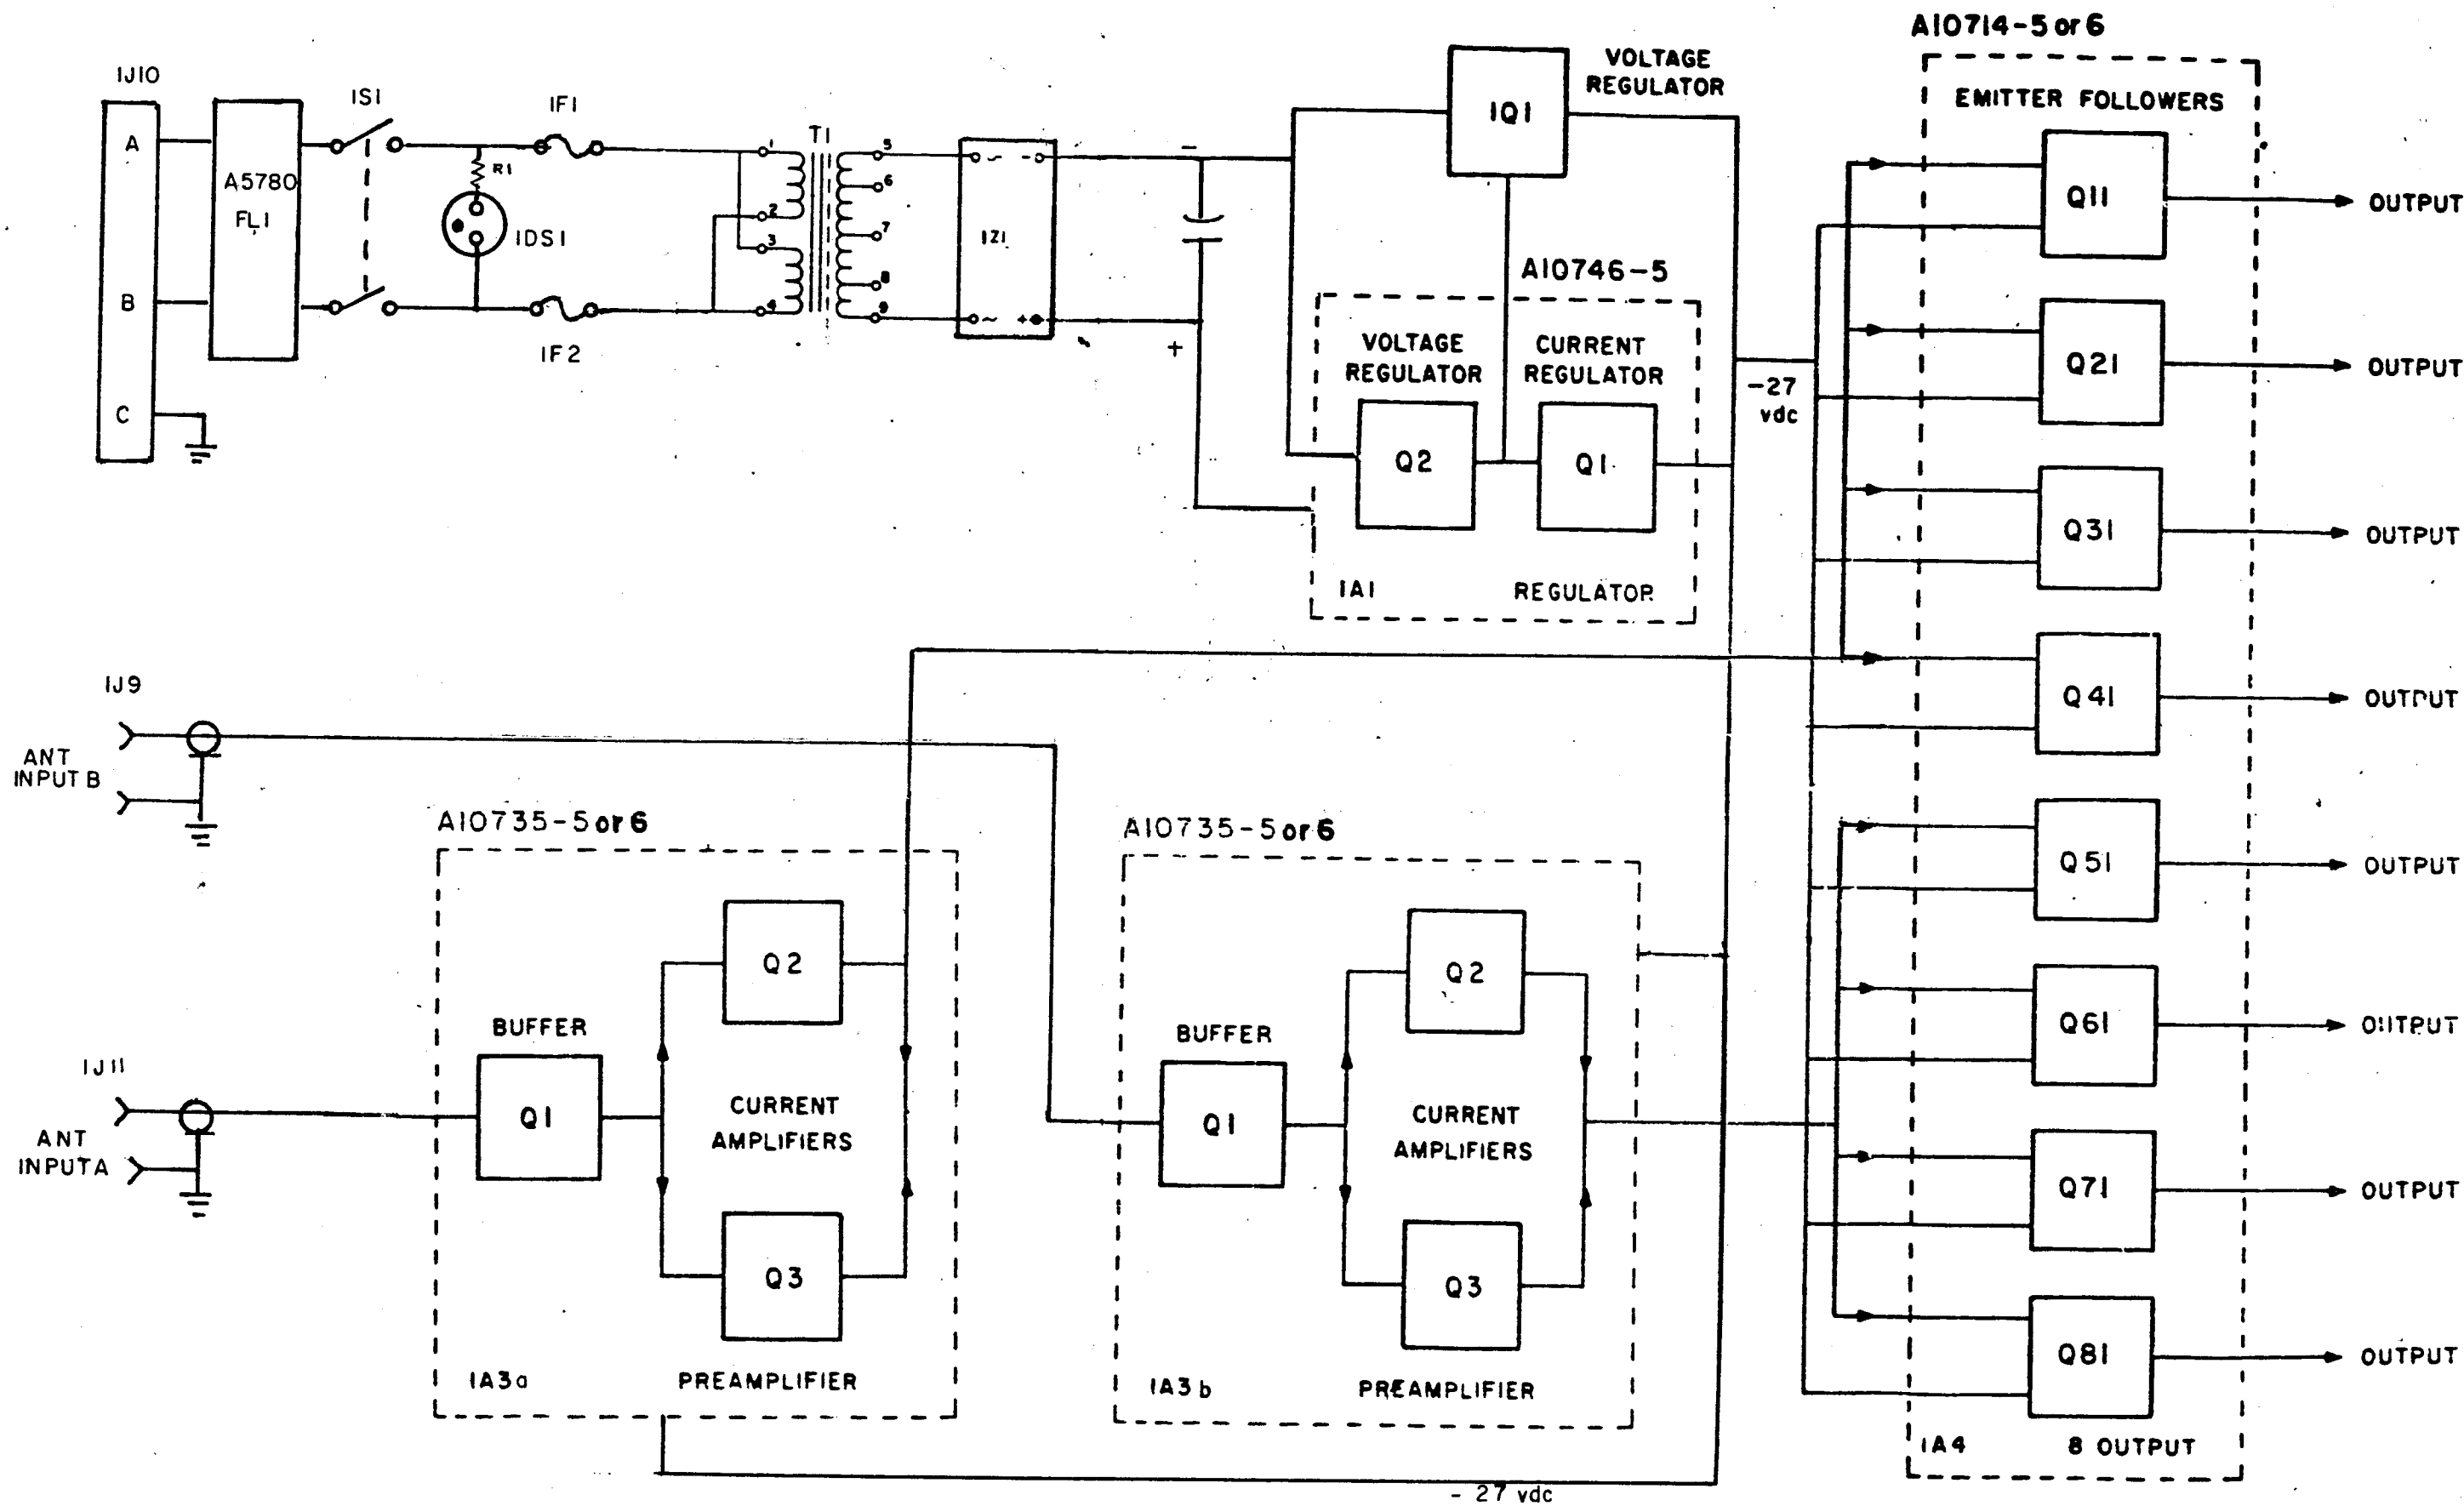

Figure 4-1
(1) The Eight Output Antenna Multicoupler is a broadband distribution system designed to operate between two antennas and the antenna terminating points of eight communications receivers, four receivers per antenna. Both the input and output impedance (50 or 75 ohms) of the AMC- (2X4) are flat over the specified operating frequency range to ensure high performance when used in a communications receiving system. Three major circuits comprise the AMC- (2X4) and they are described in the succeeding paragraphs in this section. See figure 4-1, Block Diagram, AMC- (2X4) for further comprehension.
(2) A neon lamp 1A2DS1 is connected across the input. It prevents damage to components of the AMC- (2X4) caused by lightning surges in the antenna. Any voltage over 40 volts will cause the lamp to fire redirecting the surge to ground.